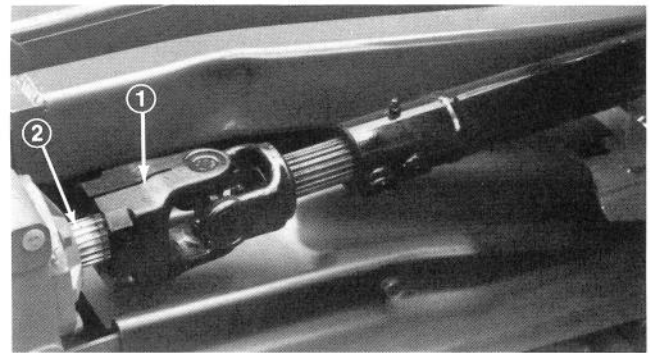

Figure 62
5. Remove socket head screws securing drive shaft yoke gear box input shaft. Slide yoke off shaft (Fig. 62).